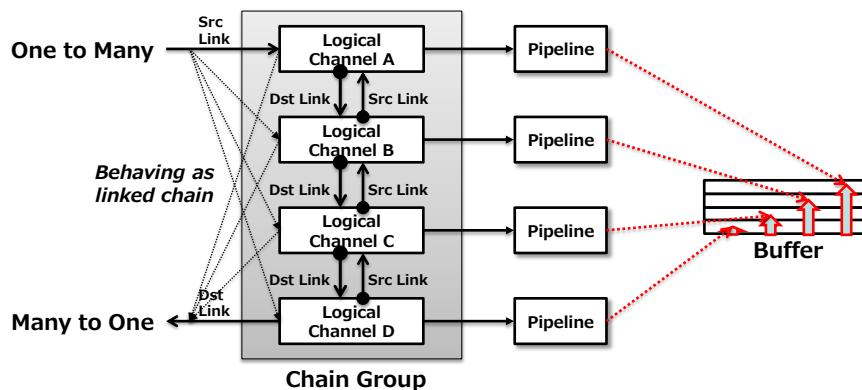

Figure 10 Cascade Link
- It is possible to control link behavior unconditionally—either blocking or freeing it—based on control flags from the referenced (linked) channel rather than from the channel itself. When executing multiple commands consecutively on the same channel, you can choose which command should be associated with link control involving other channels. In Figure 10, for example, Link Command 3 of Logical Channel A is blocked by Link Commands ① and ② of Logical Channel B, preventing it from executing. Meanwhile, Link Commands ① and ③ of Logical Channel B are freed from the influence of Command 2 of Logical Channel A. Note that a command with no link control settings behaves as if it is free—controlling itself.